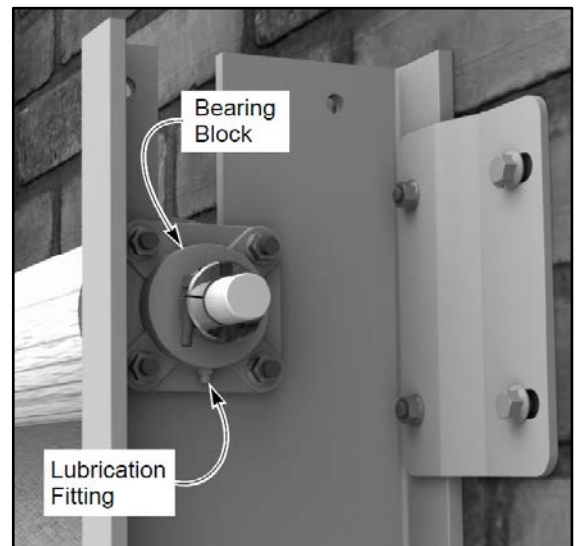

Figure 69
3. **Bearing Blocks:** The drum roll is supported by a bearing block located at each end of the drum roll. Each bearing block has a lubrication fitting. (See Figure 69)